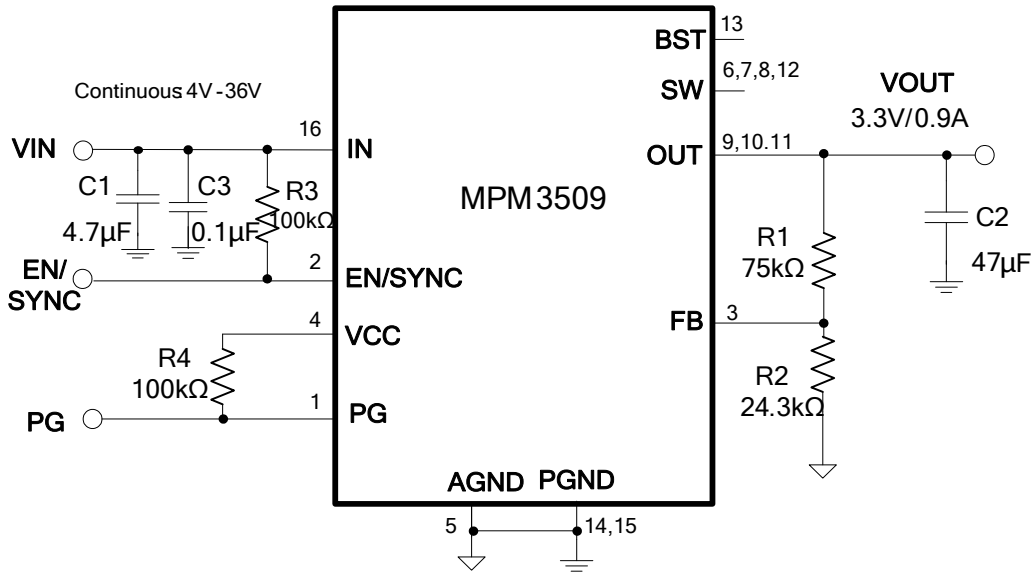

Figure 8: $V_{OUT} = 3.3V$, $I_{OUT} = 0.9A$
7) The recommended layout is based on Figure 8.